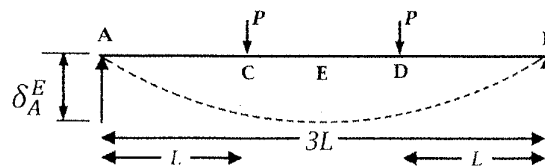

Figure Q2a
- (i) As shown in **Figure Q2a**, Beam AB is subjected to point loads (P) applied at *C* and *D*. Flexural rigidity of the beam is EI . Using **Mohr's 1st and 2nd theorems**,